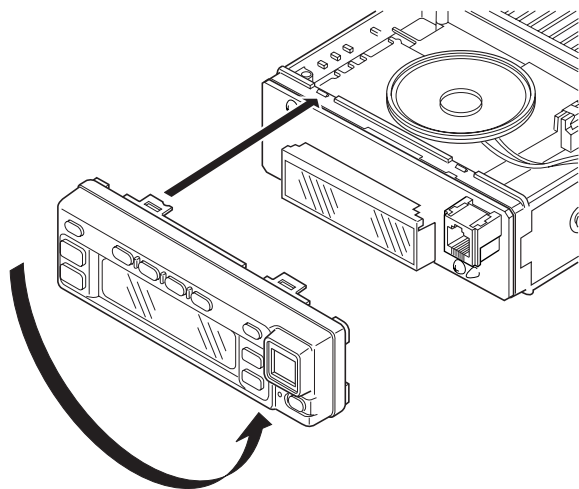

Fig. 11
- Rotate the control panel 180 degrees and mount it on the transceiver. Refit the two halves of the case to complete installation. (Fig. 11)